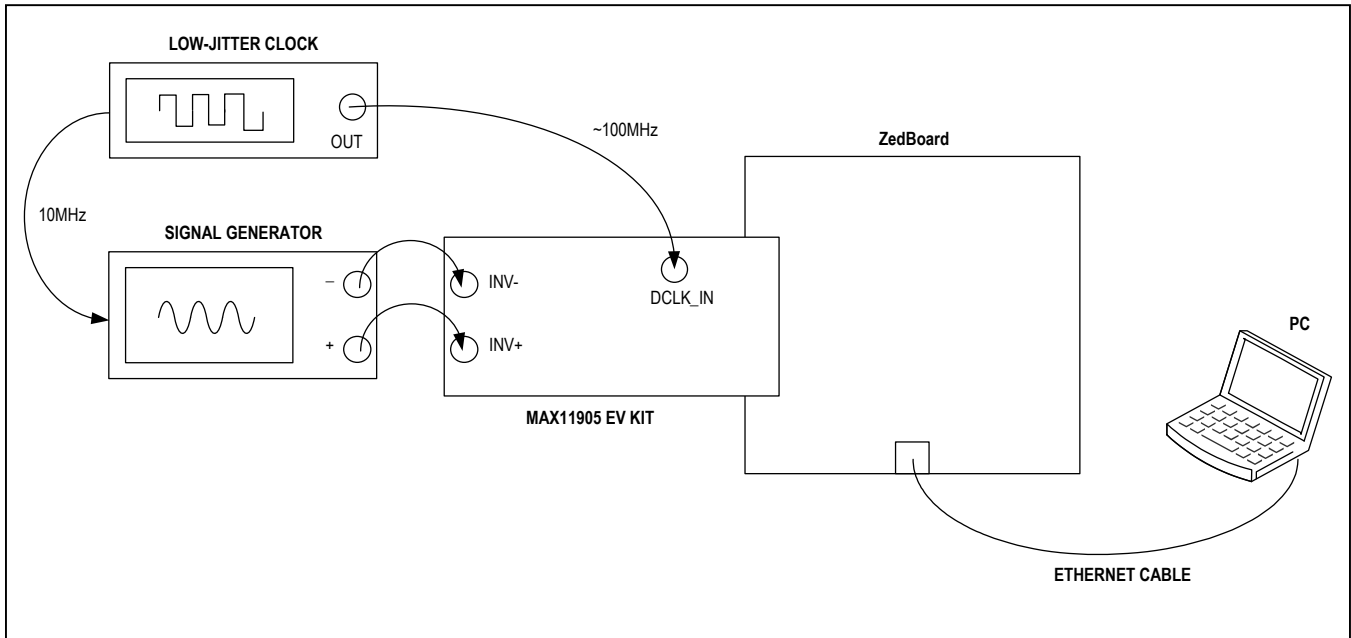
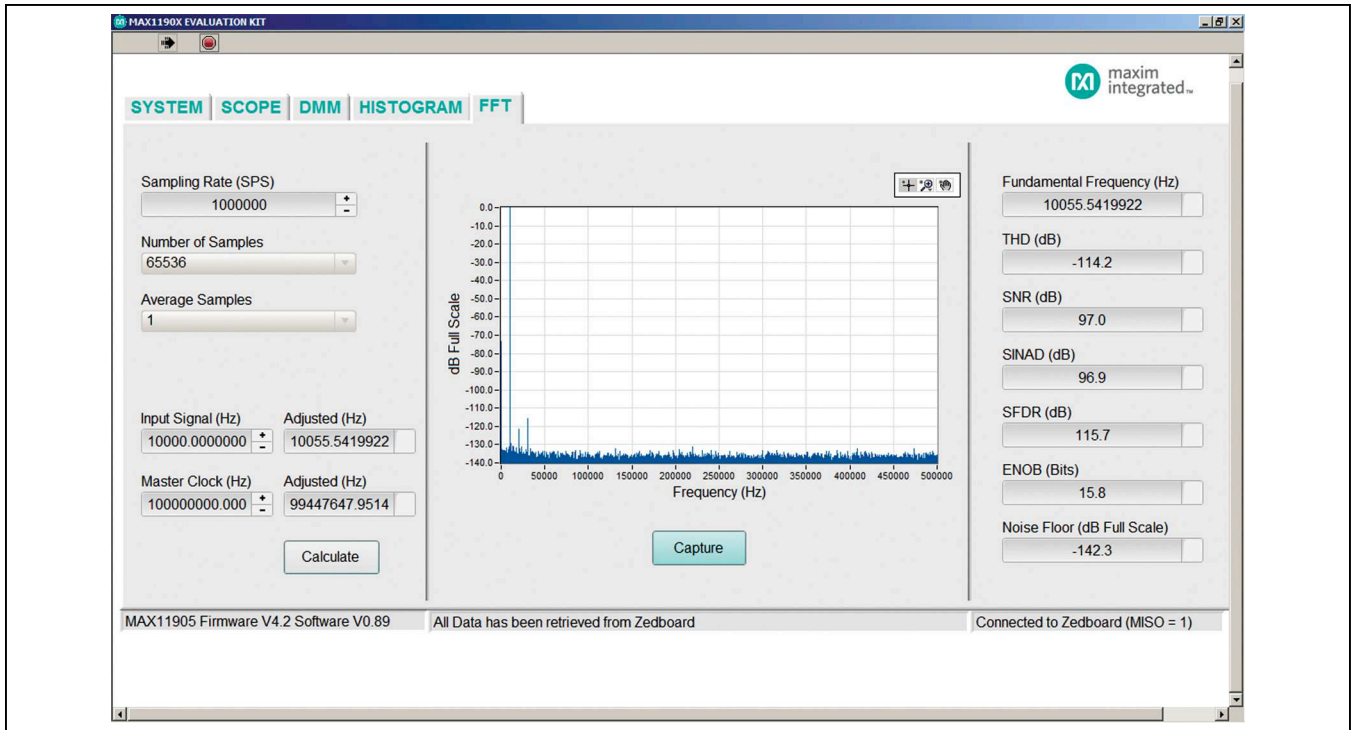
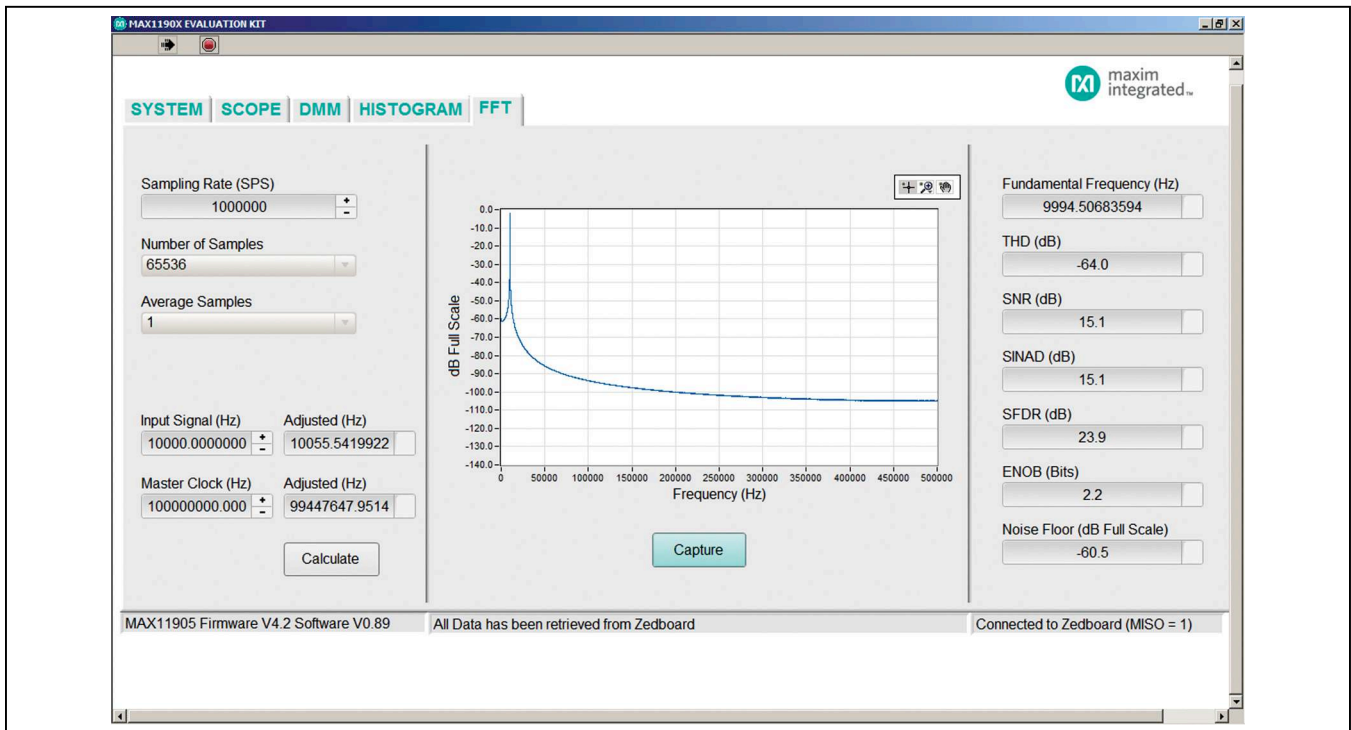

Figure 5. MAX11905 EV Kit Coherent Sampling Setup
Figure 6. MAX1190X EV Kit Main Window, Results Using the Inverting Setup (FFT Tab)
Figure 7. MAX1190X EV Kit Main Window, Results Using the Inverting Setup with Noncoherent Sampling (FFT Tab)
- 24) Click on the **FFT** tab (Figure 6) and start capturing data.
Figure 5 shows the setup Maxim uses to capture data for coherent sampling.
To achieve the results similar to Figure 6, the daughter board was configured to inverting configuration. Use the jumper settings from Table 2 for proper configurations. The input signal from the signal generator must be exactly **10000.000000 Hz**. The low-jitter clock is synchronized with the signal generator. The master clock was initially set to **1000000000 Hz** but to achieve coherent sampling, the user must click on the **Calculate** button and use the **Adjusted(Hz)** frequency. **99523158.694 Hz** was entered into our low-jitter clock. The master clock is fed back to the ZedBoard and multiplied by 3/2, then generates a system clock that drives the Xilinx FPGA. Timing for all SPI timing and sampling rate are based off the system clock.
If the results do not look similar to Figure 6 and more similar to Figure 7, then check all connections in Figure 5 to make sure the setup is synchronizing properly.